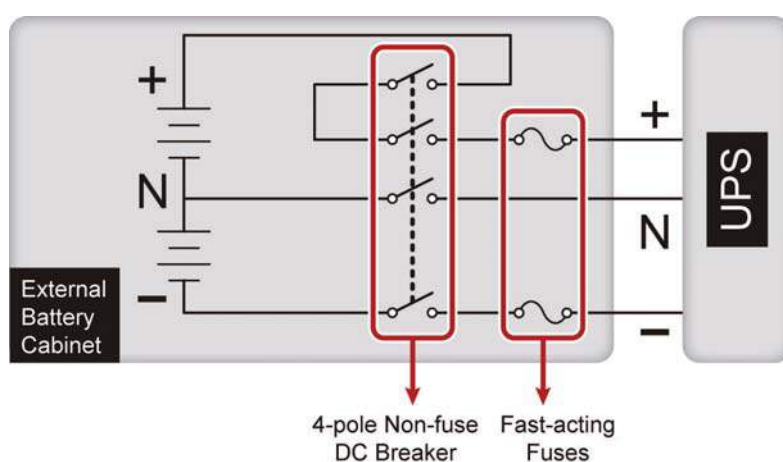
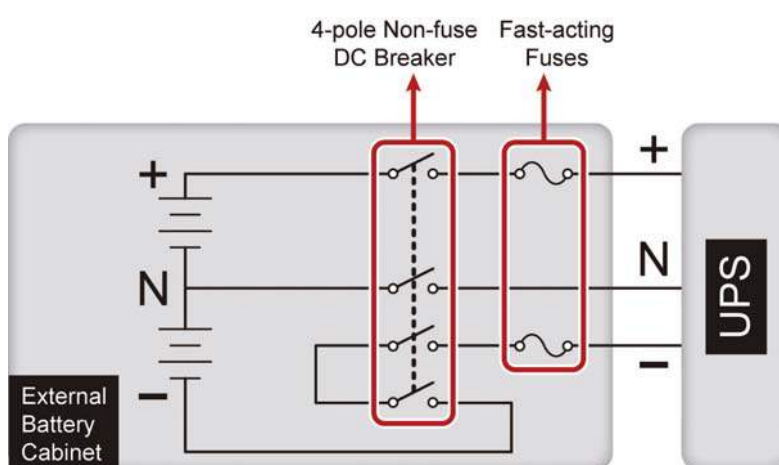

Fig. 4-1 A 4-pole Non-fuse DC Breaker and Fast-acting Fuses Installation I
Fig. 4-2 A 4-pole Non-fuse DC Breaker and Fast-acting Fuses Installation II
- * The breaker must be a 4-pole non-fuse DC breaker with characteristics of 1-pole 250Vdc, 2-pole 500Vdc, 3-pole 750Vdc and 35kA (or above) DC breaking capacity. Please follow Figure 4-1 or Figure 4-2 to install a 4-pole non-fuse DC breaker and fast-acting fuses between the UPS and the non-Delta external battery cabinet.